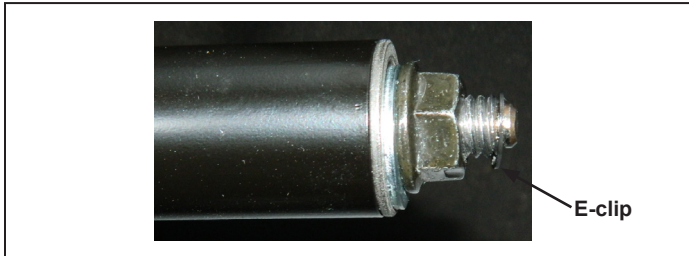

Figure 2 – E-clip Location
5. Remove the e-clip from the outside edge of the brake pedal pivot shaft. See *Figure 2*. **NOTE:** Ensure the e-clip is removed to prevent any damage to the brake pedal pivot shaft.
3. Install the new e-clip by pressing it onto the groove on the end of the pivot shaft. See Figure 2.